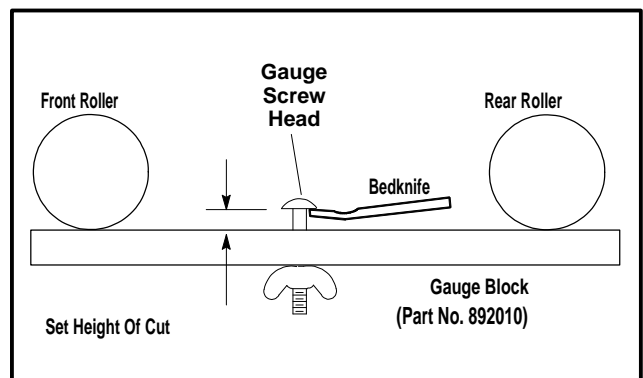

Figure 16
- Set the height of cut on the gauge block (Part No. 892010) by turning the wingnut until the distance between the bottom of the screw head and the top of the gauge block equals the desired height of cut (See Fig. 16).
- Hold the gauge block across the bottom of both the front and rear rollers near the roller adjustment bracket and adjust the front roller until the cutting edge of the bedknife comes up to touch the bottom of the gauge screw head (See Fig. 16).